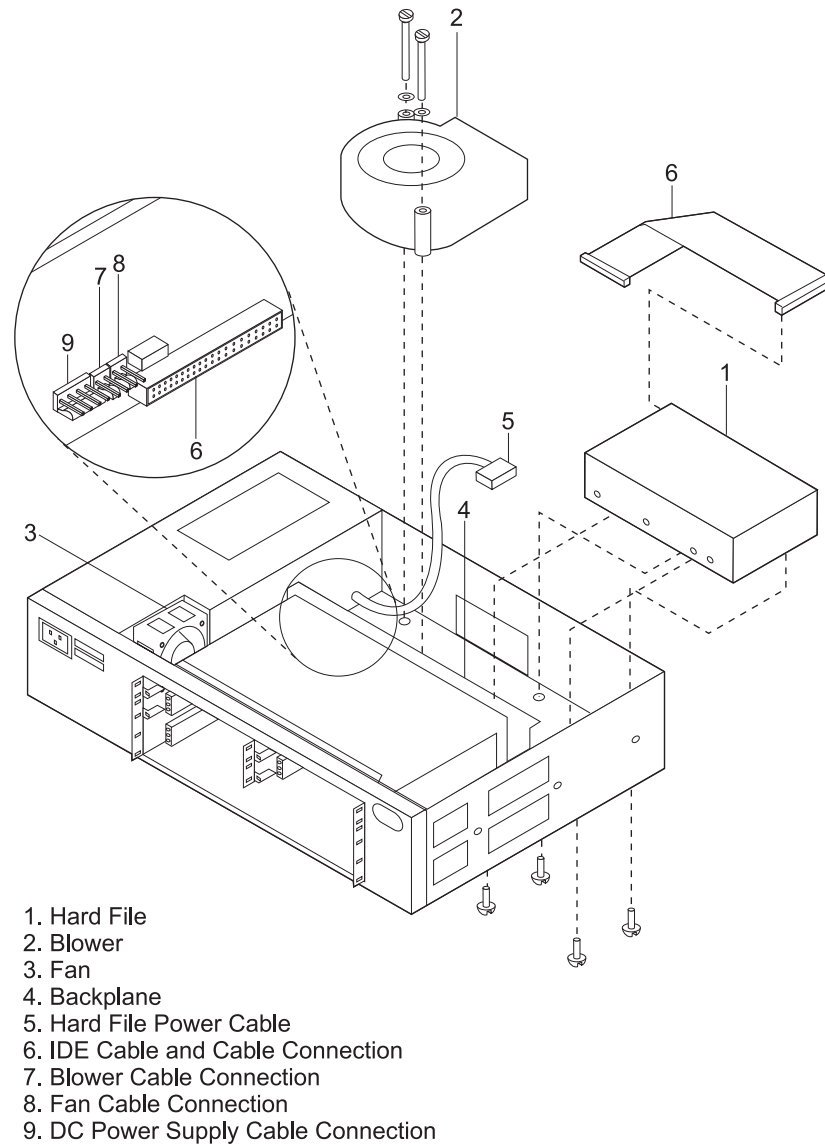

Figure 2-14. Model 4xx Chassis with a Hard File
8. Connect the new hard file to the IDE cable and the power cable. (See Figure 2-14 on page 2-26.)